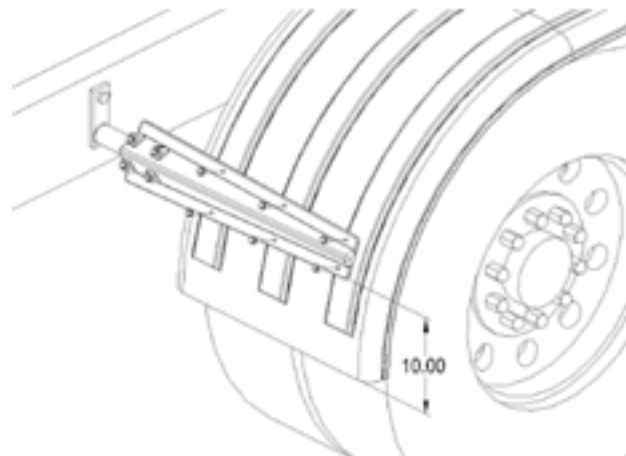

Figure 7
- C. Make sure the brackets are within 10" of the bottom of the fender to avoid wind blowing the fender back into the tire. If the front fender bracket is mounted higher than 10", run a piece of steel strapping on the inside of the fender to give it extra strength (see Figure 7).